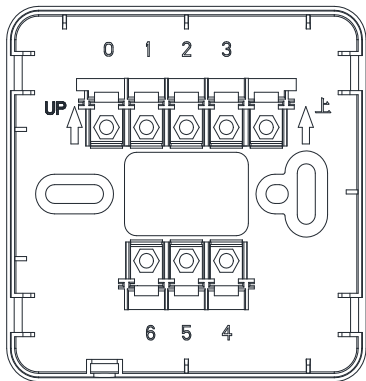

Fig.2
5.1 Fig.2 shows the schematic diagram of the back cover terminal of the hand telegraph: